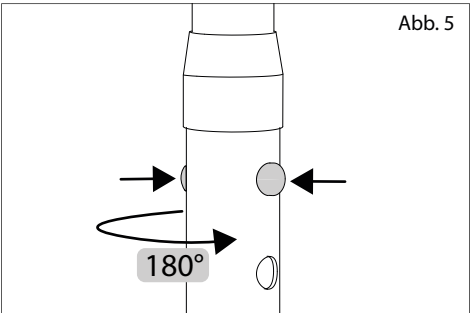

Abb. 5
- 4. Press in both spring pins and twist the push handle 180° without changing the height (Fig. 5).